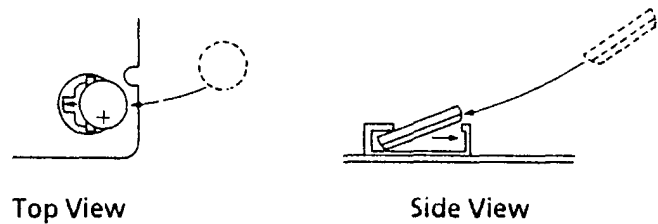

Figure 1-17 Replacing Lithium Battery
2. Remove the old battery and replace it with the new battery. (Refer to Figure 1-17 - Replacing Lithium Battery.)